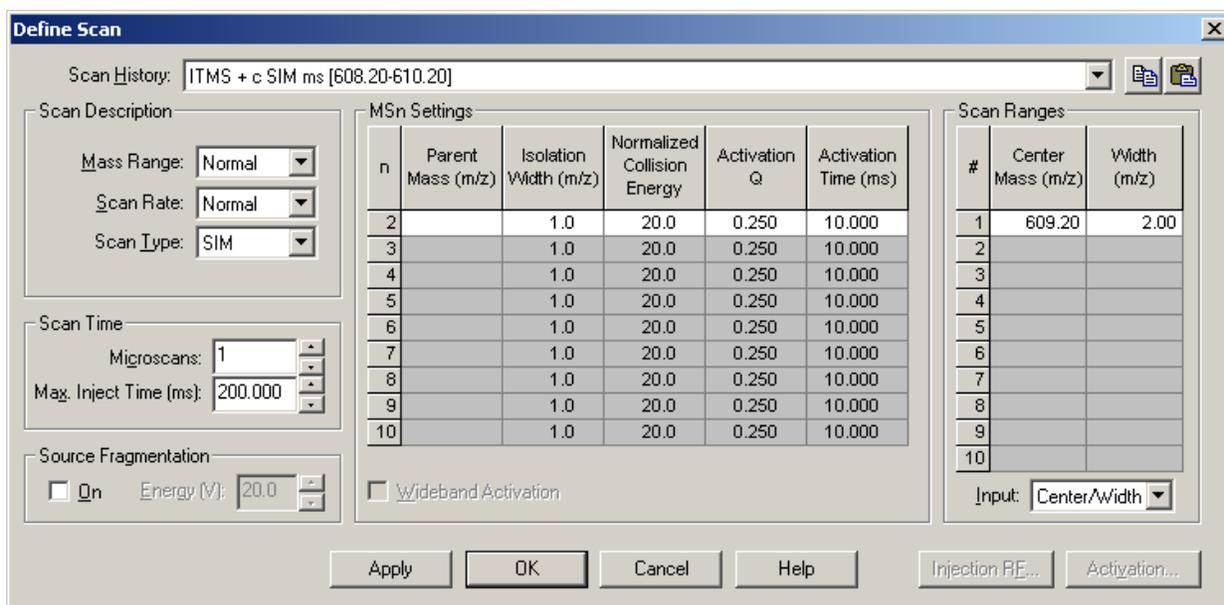

Figure 59. Define Scan dialog box, showing typical settings for APCI/MS operation
- a. On the Control/Scan Mode toolbar, click **Define Scan** to open the Define Scan dialog box. Figure 59 (If your dialog box appears different from the one shown in the figure, it is probably because the advanced settings are not displayed. You can turn on the advanced settings as follows: In Tune Plus, choose **ScanMode**, and then click **Advanced Scan Features** to select the option.)
- k. Verify that the settings in your Define Scan dialog box are the same as those shown in Figure 59.